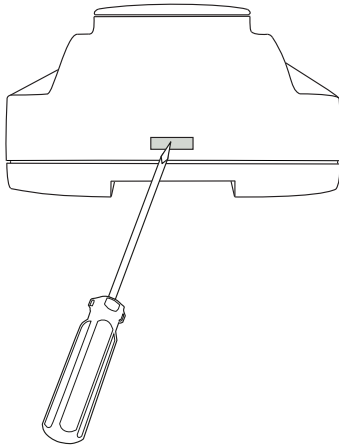

Figure 10-1 Removing the top of the casing
2. Remove the top of the casing by pressing the two tabs on each side of the casing and then lift up the top of the casing carefully. See *Figure 10-1*